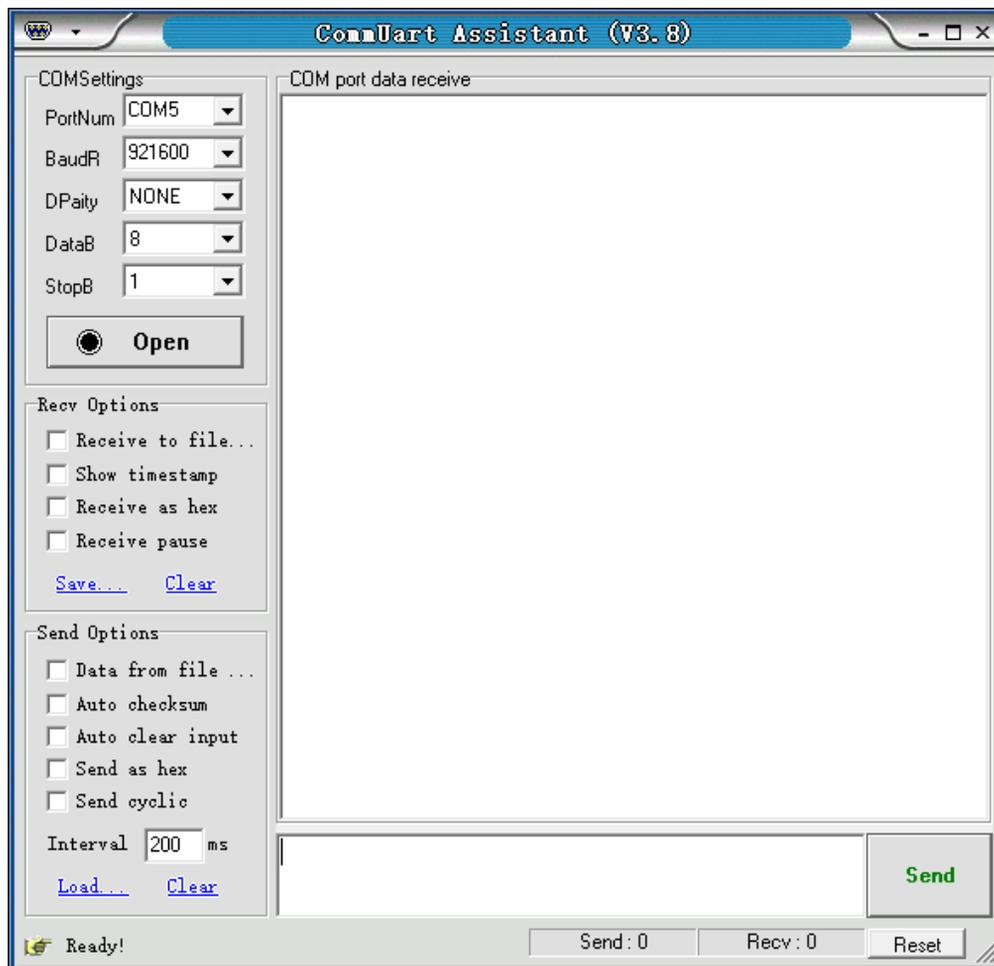

Fig.72 “CommUart Assistant” Software display
3. Open the folder “Uart Driver” in your disk and double click the file UartAssist.exe. It will call out the software interface, as is shown in Fig.72.